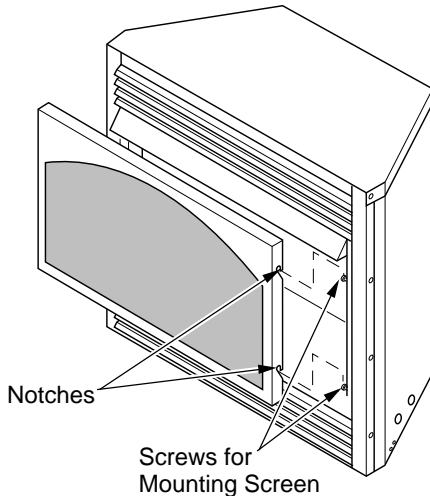

Figure 28 - Installing Fireplace Screen
5. Install fireplace screen by slipping notches of fireplace screen over screws on front of fireplace (see Figure 28, page 15).